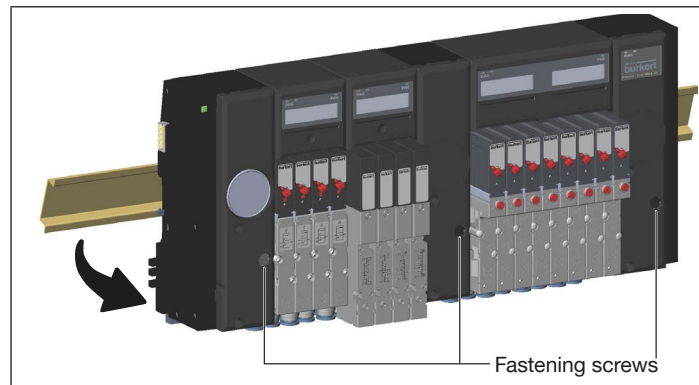

Fig. 7: Releasing the valve block from the standard rail
- Make sure all the fastening screws of the valve block (see "Fig. 7") are turned all the way counter-clockwise.
- Turn the fastening screws of the valve block (see "Fig. 7") carefully all the way counter-clockwise. **Hold the valve block! The valve block is not connected securely to the standard rail after loosening the fastening screws.**